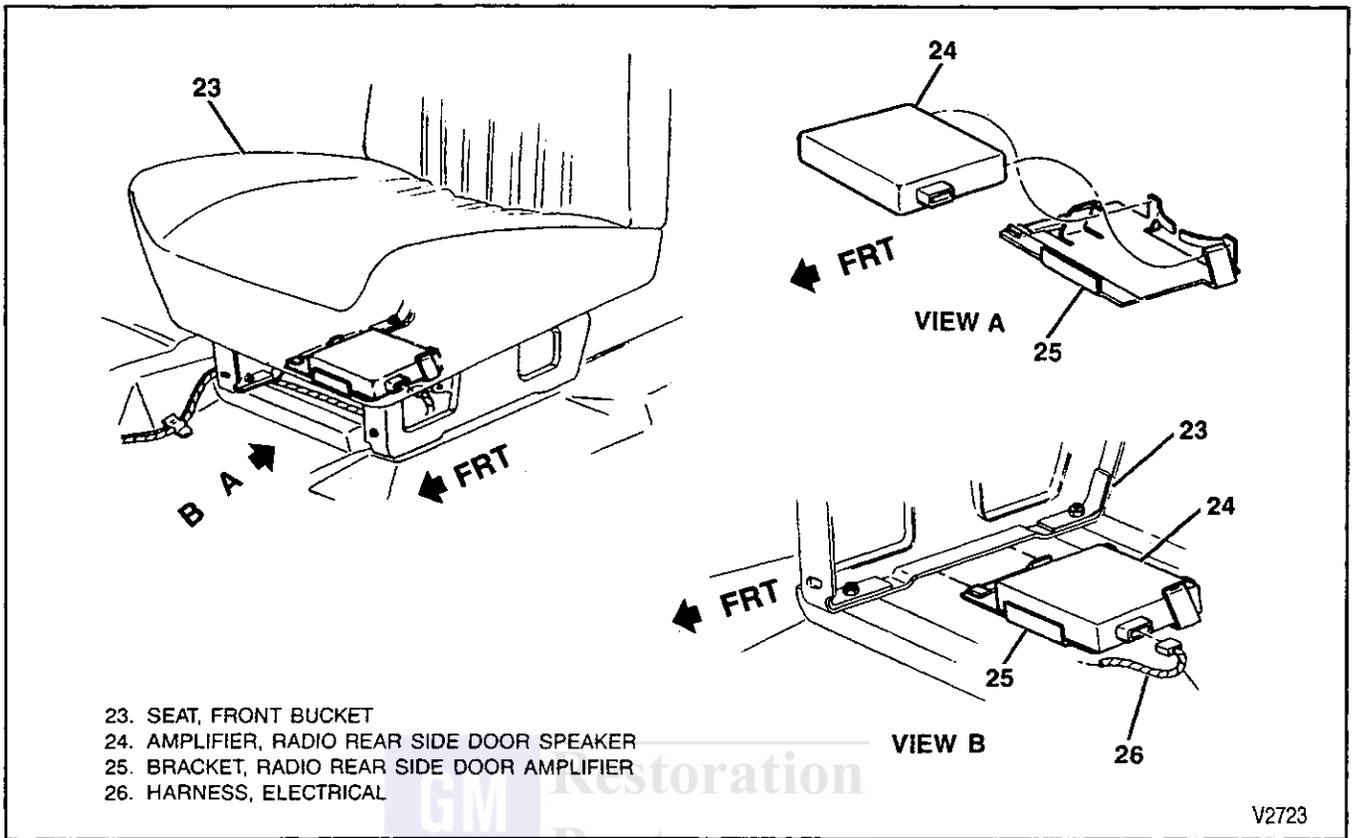

Figure 25—Amplifier Assembly (Front Bucket Seat-Suburban Models)
**↔ Remove or Disconnect (Figures 25 and 26)**
3. Amplifier (24) from bracket (25).
**↔ Install or Connect (Figures 25 and 26)**
1. Amplifier (24) to bracket (25).